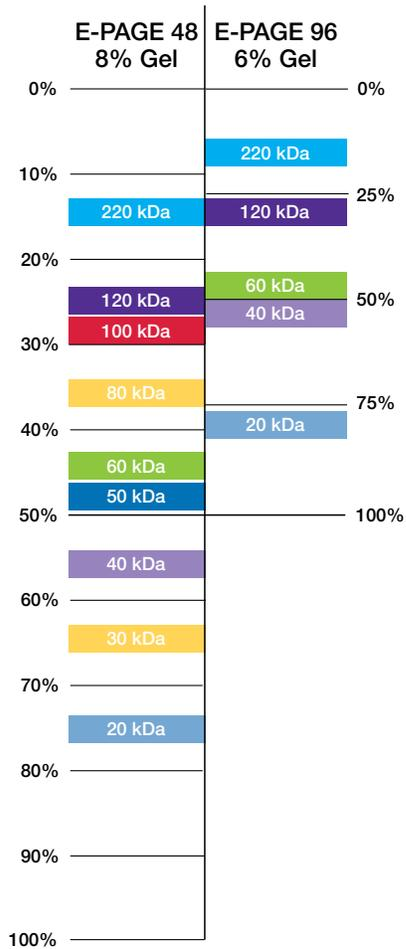

Figure 24. E-PAGE gel migration chart. Migration patterns of the Invitrogen™ E-PAGE™ MagicMark™ Unstained Protein Standard are shown.
- Separation range: 10–200 kDa (Figure 24)